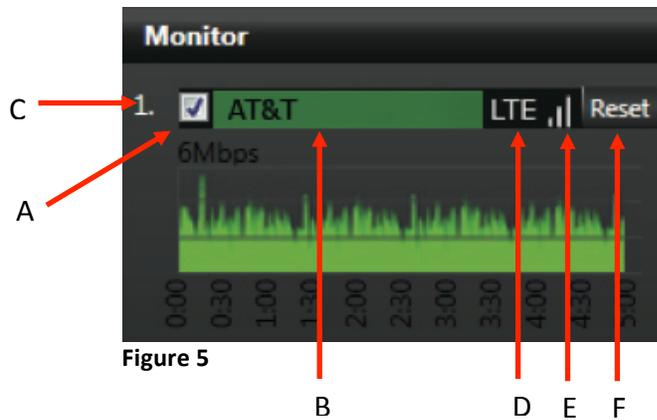

Figure 5
K	Datacard monitor panel: This monitor panel displays the current status of each data card. See Figure 5
N	Reset: Provides a full power reset for a particular modem (TM8200 only). Use this feature when the modem is no longer able to connect or is having problems. On the TM8100, pressing “RESET” will force the modem to reconnect. See F on Figure 5
The check boxes associated with each card's status bar enable or disable a particular datacard **(A)** (Figure 5). If unchecked, it will not be used to pass data. If checked on (default), it will be used. Individual read out panels show the carrier name (when available) of each active card **(B)**. The slot number of each datacard is indicated in front of the carrier name **(C)**. To retrieve the IP Address of a particular datacard, mouse over the name of that datacard. If no name is automatically provided and is displayed as <name>, you can input your own name. However, this will reset upon reboot. The color indicators displayed within the carrier name panel indicate the following status:
The connection mode (D) is next to the connection strength, which is indicated with three status bars (E)(Figure 5). If the bars are all gray, there is no connection. Three green bars indicate excellent connection strength.